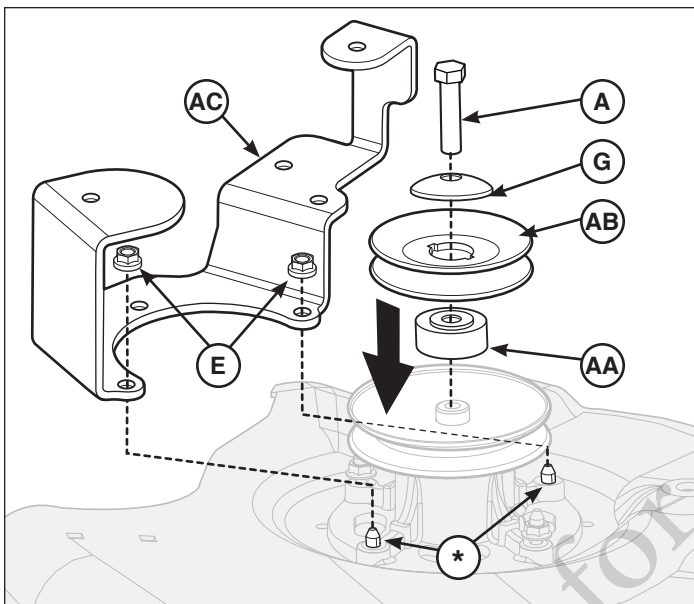

Figure 4
1. Assemble spacer (AA, Figure 4), turbo drive pulley (AB), spring washer (G) and capscrew (A) to existing pulley on mower. Use a wood block to prevent blade rotation and torque capscrews to 50 - 60 ft. lbs. (67.7 - 81.3 Nm).
2. Place idler cover support (AC) onto mounting screws (*) and secure with nuts (E).